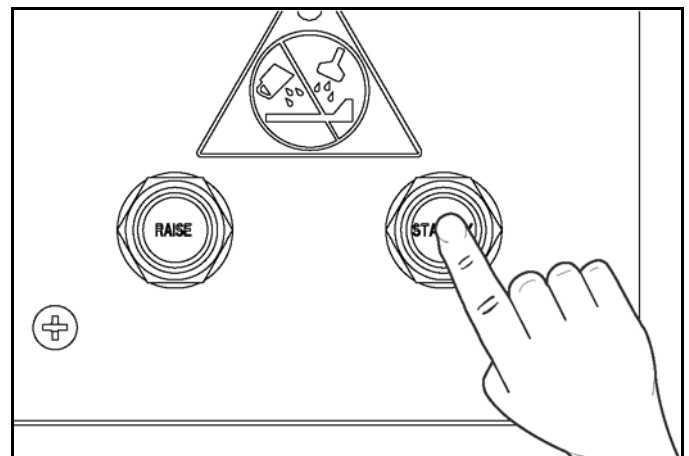

Figure-174
4. Press the STANDBY button to start the recovery process. See Figure-174.